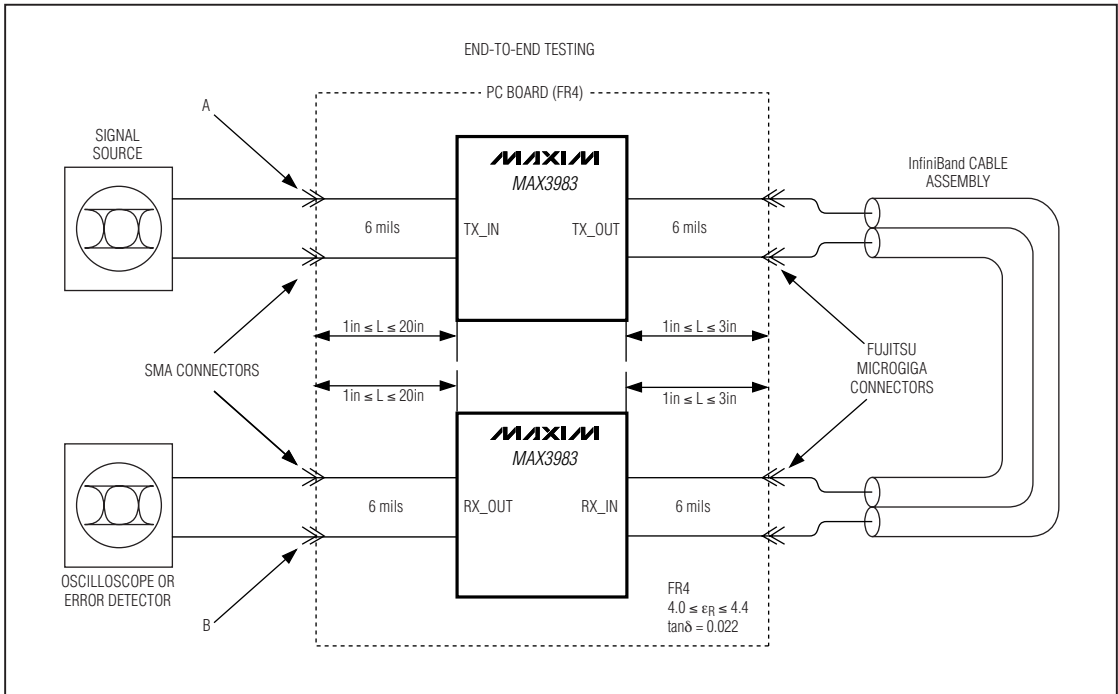

图2. 端-端测试装置。A、B标注点请参考交流参数测试条件。
Note 13: Cables are unequalized, Amphenol Spectra-Strip 24AWG or equivalent equipped with Fujitsu "MicroGiga" connector or equivalent. Residual deterministic jitter is the difference between the source jitter at point A and the load jitter at point B in Figure 2. The deterministic jitter (DJ) at the output of the transmission line must be from media-induced loss and not from clock-source modulation. Depending upon the system environment, better results can be achieved by selecting different preemphasis levels.